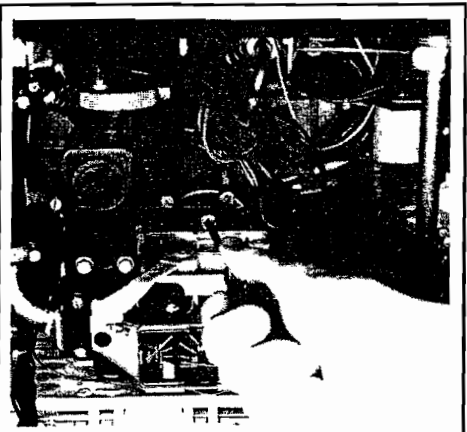

Fig. 86
(h) Undo and remove large crosshead screw holding water valve to back plate of reversing valve assembly. Fig.86.
- (f) Unscrew and remove large crosshead screw holding water valve to back plate of reversing valve assembly. Refer to Fig.86.